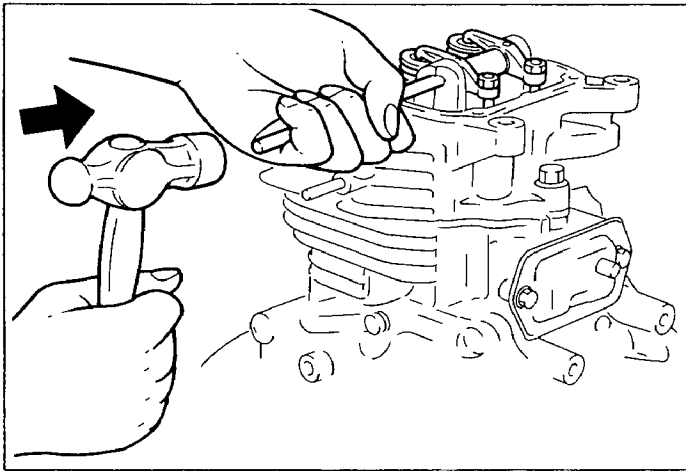

Fig. 31
| 23 | Cylinder head | <p>(1) Remove rocker cover from cylinder head. M6 × 12mm flange bolt ···· 4pcs.</p> <p>(2) Loosen adjusting bolts on rocker arms.</p> <p>(3) Pull out rocker shaft from the intake side of the cylinder head. (See FIG. 31.)</p> <p>(4) Remove the push rods from cylinder.</p> <p>(5) Remove cylinder head and gasket. M10 × 75mm flange bolt ···· 4pcs. M10 × 42mm flange bolt ···· 1pce.</p> | Mark rocker arms and push rods so they be reinstalled in their original positions. | <p>10mm box wrench</p> <p>14mm box wrench</p> |